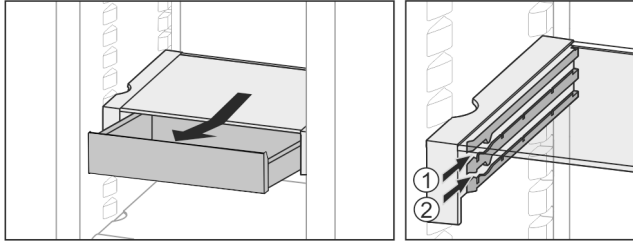

Fig. 36
- ▶ Slide in at any height Fig. 36 (1) or Fig. 36 (2).